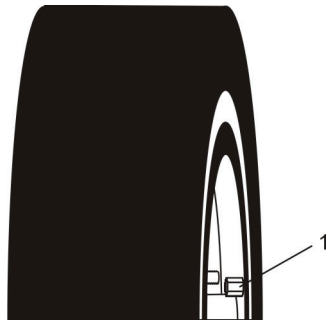

Fig. 4
2. Place the wheel on the wheel studs and thread one wheel nut (1) clockwise onto each wheel stud (Fig. 4).